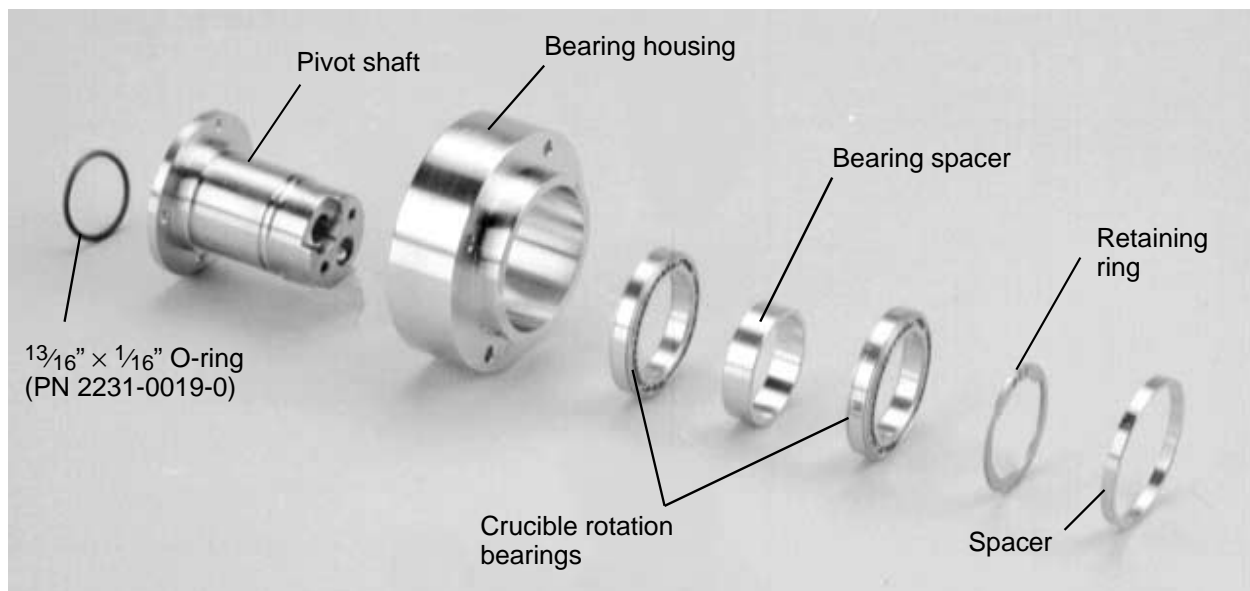

Figure 6-23. Parts layout of the bearing housing assembly
Step 3: Remove the pivot shaft, upper and lower bearings, and bearing spacer from the bearing housing. Figure 6-23 shows these parts laid out in order of reassembly.
Step 1: Put the pivot shaft in place inside the bearing housing, making sure that they both face the correct way, as shown in Figure 6-23.